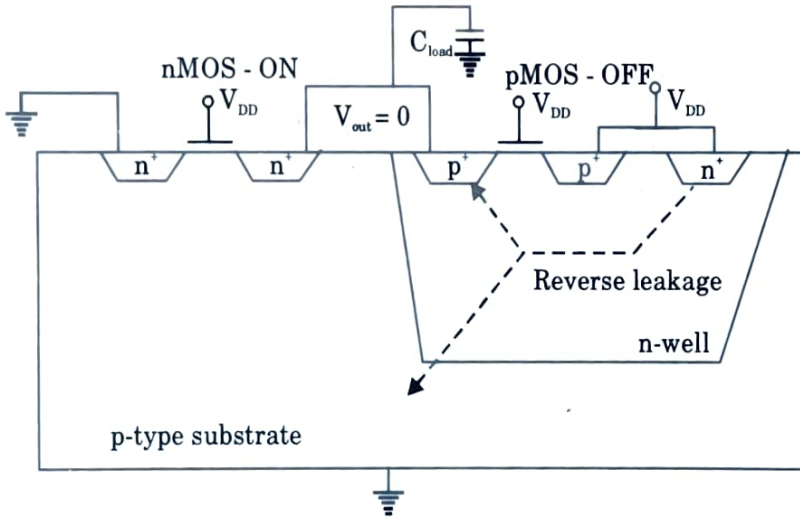

Fig. 4.14.1.
5. The n -well region of pMOS is also reverse-biased with V_{DD} with respect to p -type substrate. Therefore another significant leakage current component exists because of the n -well junction as shown in Fig. 4.14.1.